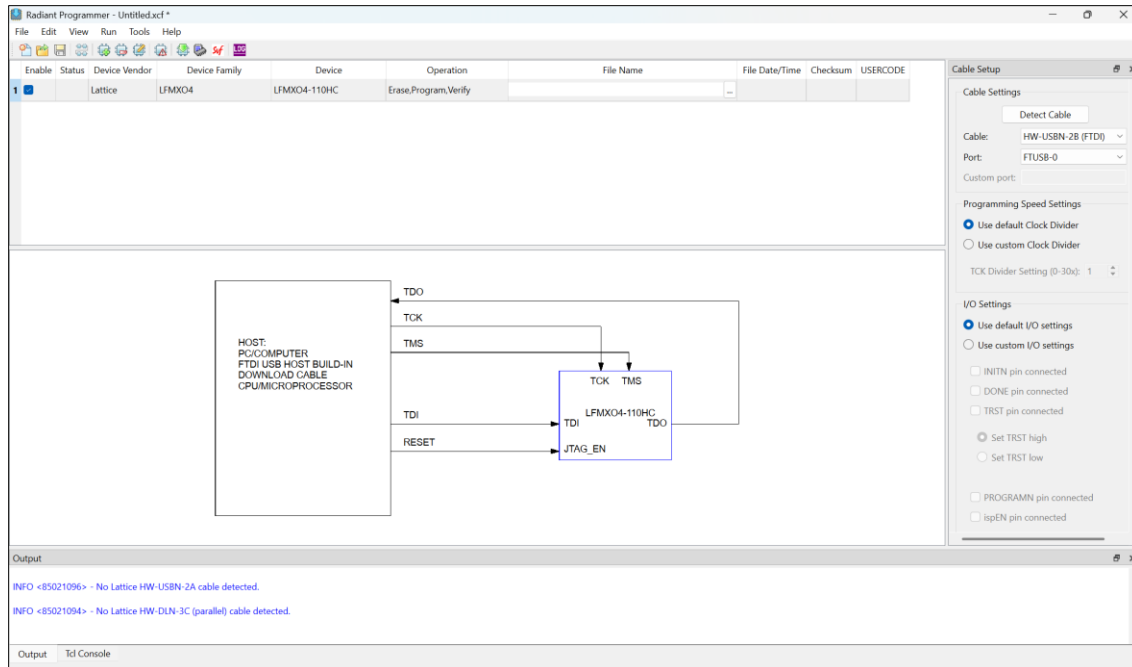

Figure 3.3. Device Selection in Lattice Radiant Programmer
4. Once the board is scanned, the window shown in Figure 3.3 appears.